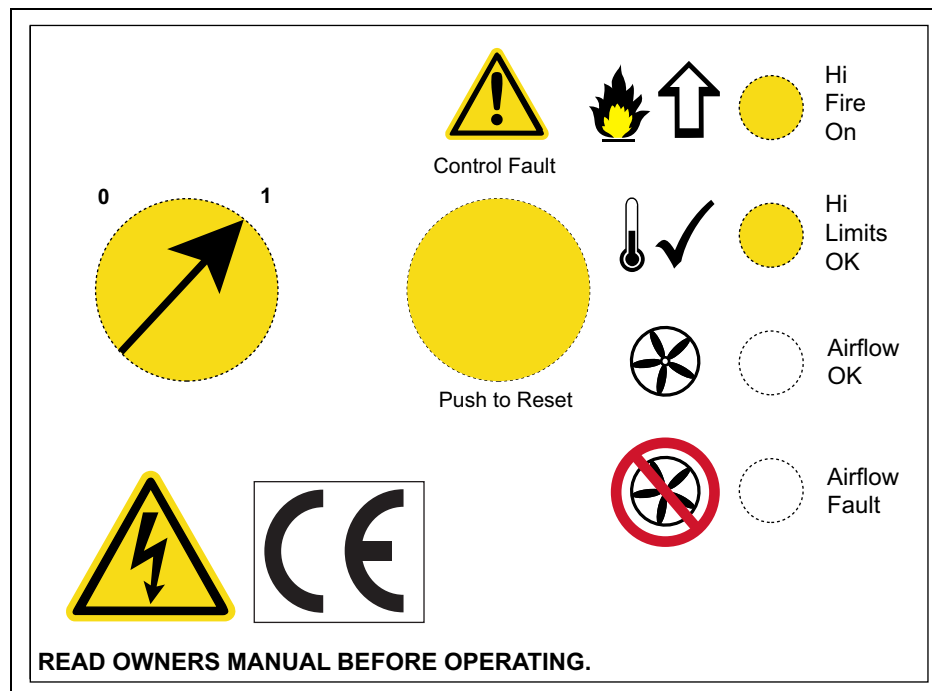

Figure 5Q Burner Lock Out Control Status
6. If control is as Figure 5Q, press and hold reset for 3 seconds.